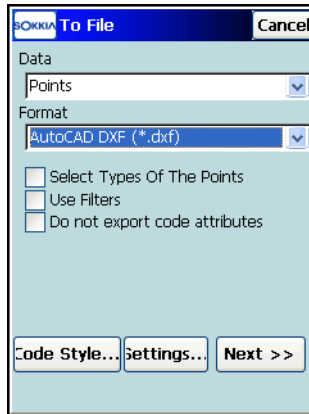
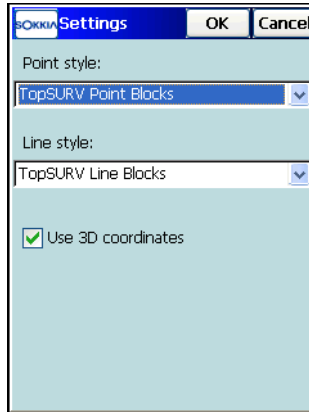

Figure 5-33. AutoCAD DXF
Figure 5-34. Settings
1. When exporting points to the *AutoCAD DXF* or *AutoCAD Drawing* format, you can select an option not to export code attributes on the *To File* screen (Figure 5-33).
2. Tap the **Code Style** button on the *To File* screen (Figure 5-33) to set a format for point properties (*codes*, *control codes*, *strings*, and *notes*) to export to the file. The *Settings* screen displays (Figure 5-34 on page 5-24).
3. Select *point/line styles* and check and enable the Use 3D coordinates box to use 3D coordinates, then tap the **Settings** button (Figure 5-34).